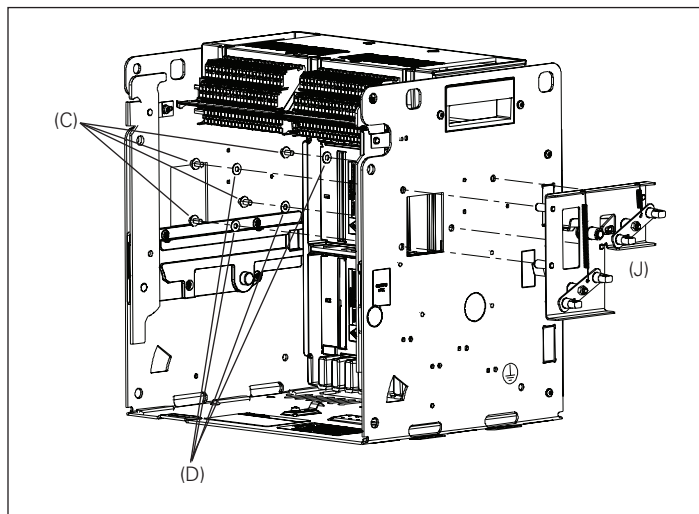
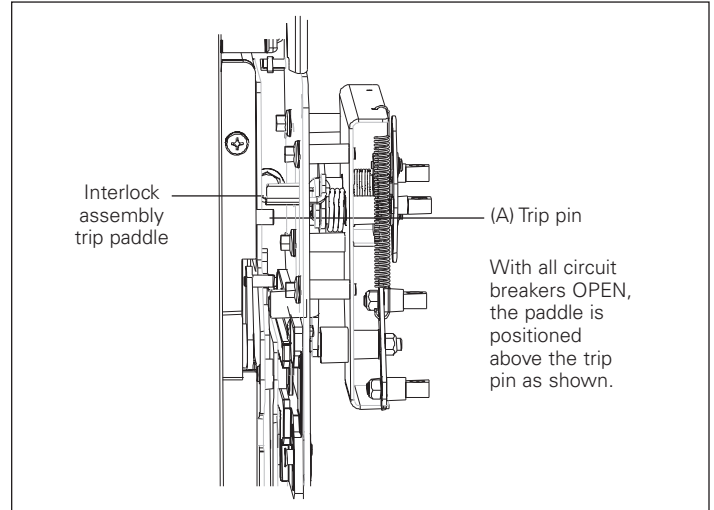

Figure 8. Details for Step 5
Figure 9. Details for Step 5
Fasten the interlock assembly (J) to the drawout cassette's right-side sheet using four M6 x 12 mm hex bolts (C) and four lock washers (D) as shown in **Figure 8**. Torque to 4,5–5,6 N·m (40–50 in-lb). Ensure that once the breaker is racked in, the trip paddle is above the trip pin on the trip bar as shown in **Figure 9**.